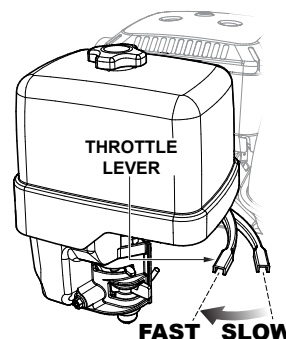

Figure 16. Throttle Lever
3. Move the throttle lever (Figure 16) away from the slow position, about 1/3 of the way toward the fast position.